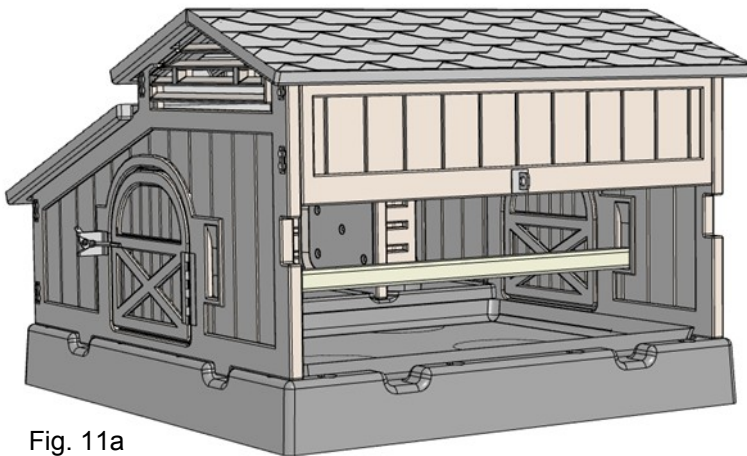

Fig. 11a
Step 11: Install the Roost by first placing one end into the recess on a end panel, and then rotate the other end of the Roost until it is seated into the recess of the opposite panel. (Fig. 11a)